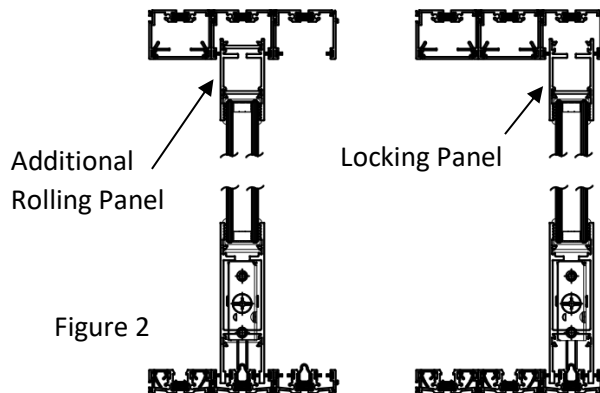

Figure 2
29. Temporarily adjust the panel upward by lifting the panel and turning the adjustment screw shown in figure 1 clockwise as shown in figure 2 until the rollers regain contact with the track. It is important to physically lift the panel while adjusting upward so that the adjustment screw does not strip due to the weight of the panel. Adjust the rollers of the active panels by turning the adjustment screw shown in figure 1 to achieve proper alignment of the door panels (it is easier to adjust down than up). Turn screw clockwise to raise the panel and counterclockwise to lower the panel as shown in figure 2.